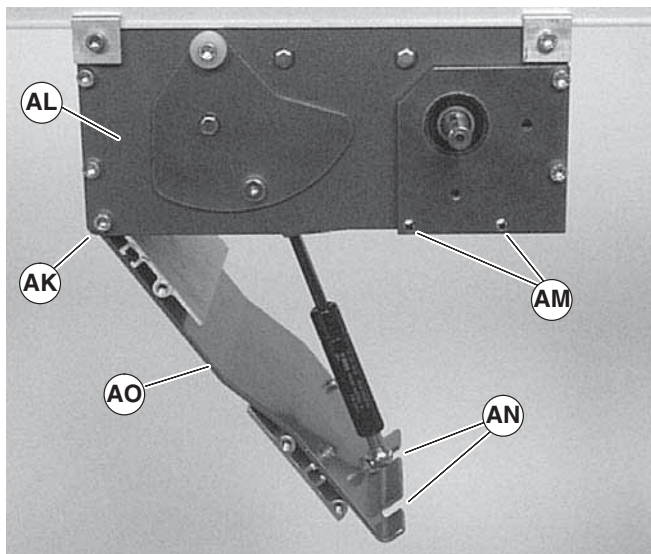

Figure 19
4. Loosen corner screws (Figure 19, item AK), on each side of the drive module (AL).